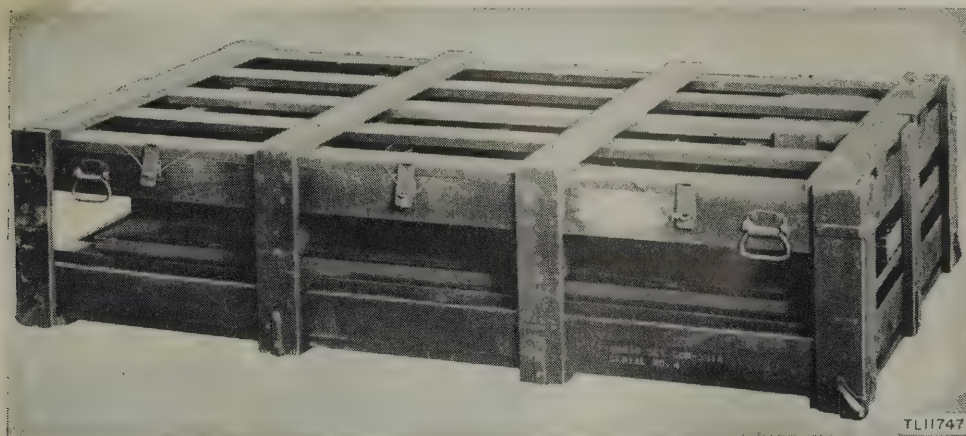
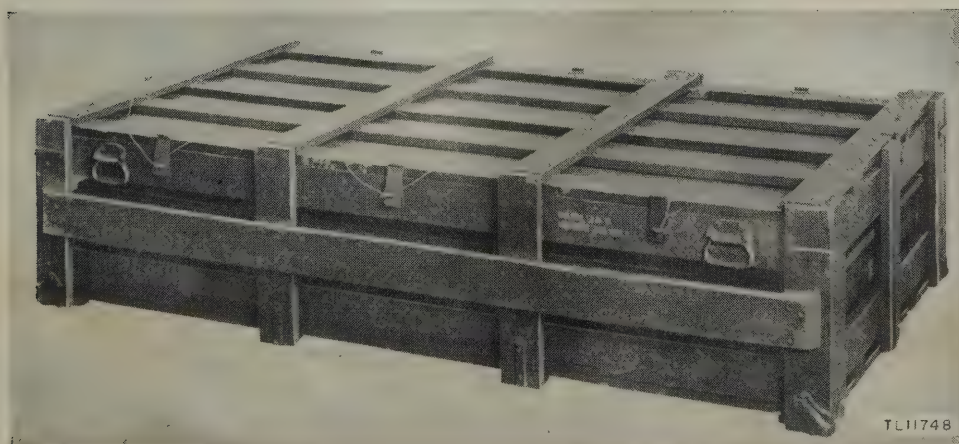
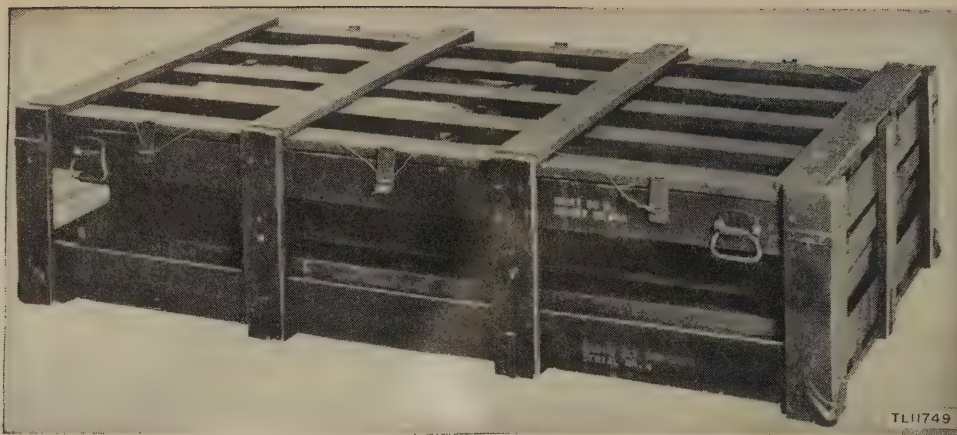
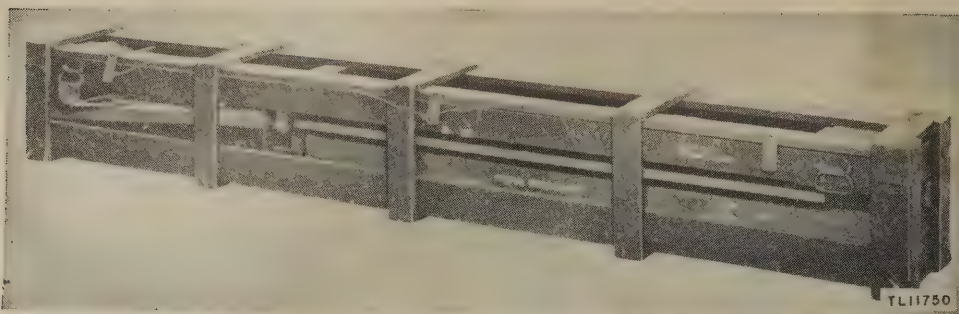

Figure 88. Shelter HO-20-A, crate No. 1
Figure 89. Shelter HO-20-A, crate No. 2
Figure 90. Shelter HO-20-A, crate No. 3
Figure 91. Shelter HO-20-A, crate No. 4.
b. CRATE No. 1 (fig. 88).
- (1) Floor section No. 2, stenciling down.
- (2) Floor section No. 3, stenciling down.
- (3) Floor section No. 1, stenciling down.
- (4) Wall panel No. 9, stenciling down, louver toward the front.
- (5) Place two disassembled tables in the crate, from left to right, with the irons running from front to back.
- (6) Place the canvas cover at the right.
c. CRATE No. 2 (fig. 89).
- (1) Wall panel No. 5, stenciling down, between the block on the bottom and the right side of the crate.
- (2) Wall panel No. 2, stenciling up.
- (3) Wall panel No. 7, stenciling down and to rear.
- (4) Wall panel No. 6, stenciling down.
- (5) Wall panel No. 3, stenciling up.
- (6) Wall panel No. 10, stenciling down and to rear. Attach three keys to the handle.
(7) Wall panel No. 1, stenciling down.
d. CRATE No. 3 (fig. 90).
- (1) Roof section No. 2, stenciling up.
- (2) Seven brackets: four in front section, three in other.
- (3) Roof section No. 3, stenciling up.
- (4) Roof section No. 1, stenciling up.
- (5) Wall panel No. 4, stenciling up.
- (6) Wall panel No. 8, stenciling up.
- (7) Two chairs in section of panel No. 8 (to rear of crate), tops toward right side.
- (8) Electrical supplies and one chair (packed in crate No. 4 on some orders).
e. CRATE No. 4 (fig. 91).
- (1) Two long foundations (two-by-fours) placed on flat side at outer side of crate facing hardware box.
- (2) High side rail, between long foundations, stenciling down.
- (3) Two corner posts, on two-by-four at right side of crate.
- (4) Low side rail, on top of high side rail, stenciling up, and sash clasp to left side. (Be sure clasps clear the high side rail.)
- (5) One corner post, between corner post on right side of crate and low side rail.